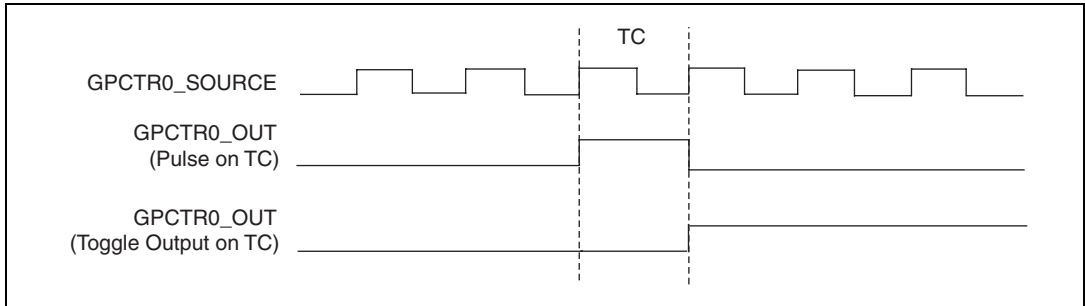

Figure 3-30. GPCTR0_OUT Signal Timing
This signal is available only as an output on the GPCTR0_OUT screw terminal. The GPCTR0_OUT signal reflects the terminal count (TC) of general-purpose counter 0. You have two software-selectable output options—pulse on TC and toggle output polarity on TC. The output polarity is software selectable for both options. This output is set to high-impedance at start up. Figure 3-30 shows the timing of the GPCTR0_OUT signal.